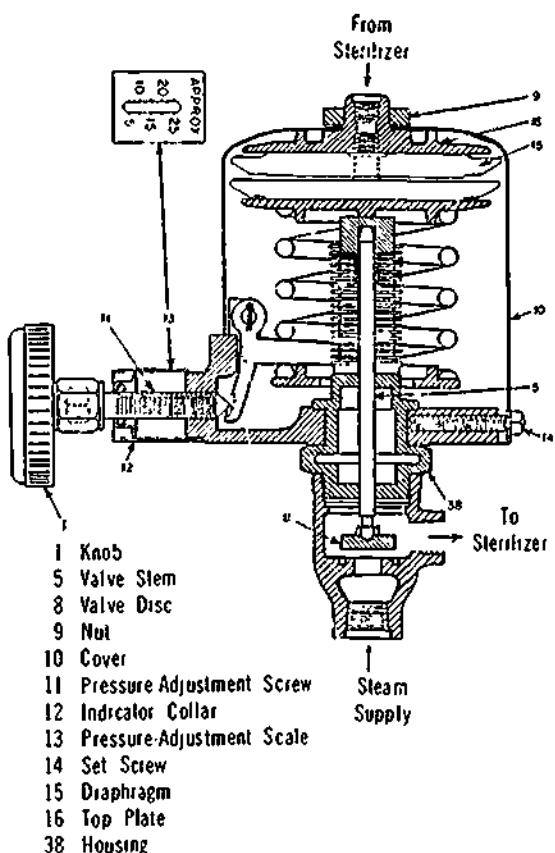

Figure 31-8. Automatic Control Valve
93. *Automatic Control Valve.* (Refer to Figure 31-8 in the accompanying appendix.) The automatic control valve is installed on the steam supply line and is the last valve through which steam passes before entering the autoclave. This valve may be set to maintain any predetermined pressure in the autoclave. With this valve, a higher pressure for sterilizing dressings and a lower pressure for sterilizing rubber goods and other material may be obtained. The maximum differential between the high and low limit is approximately 140 kPa. Any
106. The purpose and operation of the thermostatic steam traps (TST) and the steam-supply valve are as already described. However, operation of the pressure regulator is slightly different from that of the one in Figure 31-8. Instead of regulated steam pressure being applied to the diaphragm, pressure in the assembly of thermobulb and capillary tubing is applied to the diaphragm. The thermobulb, capillary tubing, and diaphragm are filled with a volatile liquid or gas. When the bulb is heated, the liquid or gas expands and exerts pressure on the diaphragm to close the regulator valve. The thermobulb is located at a vent on the unit so that steam from the boiling water flows around it. This results in the regulator valve closing when a small amount of steam is present.